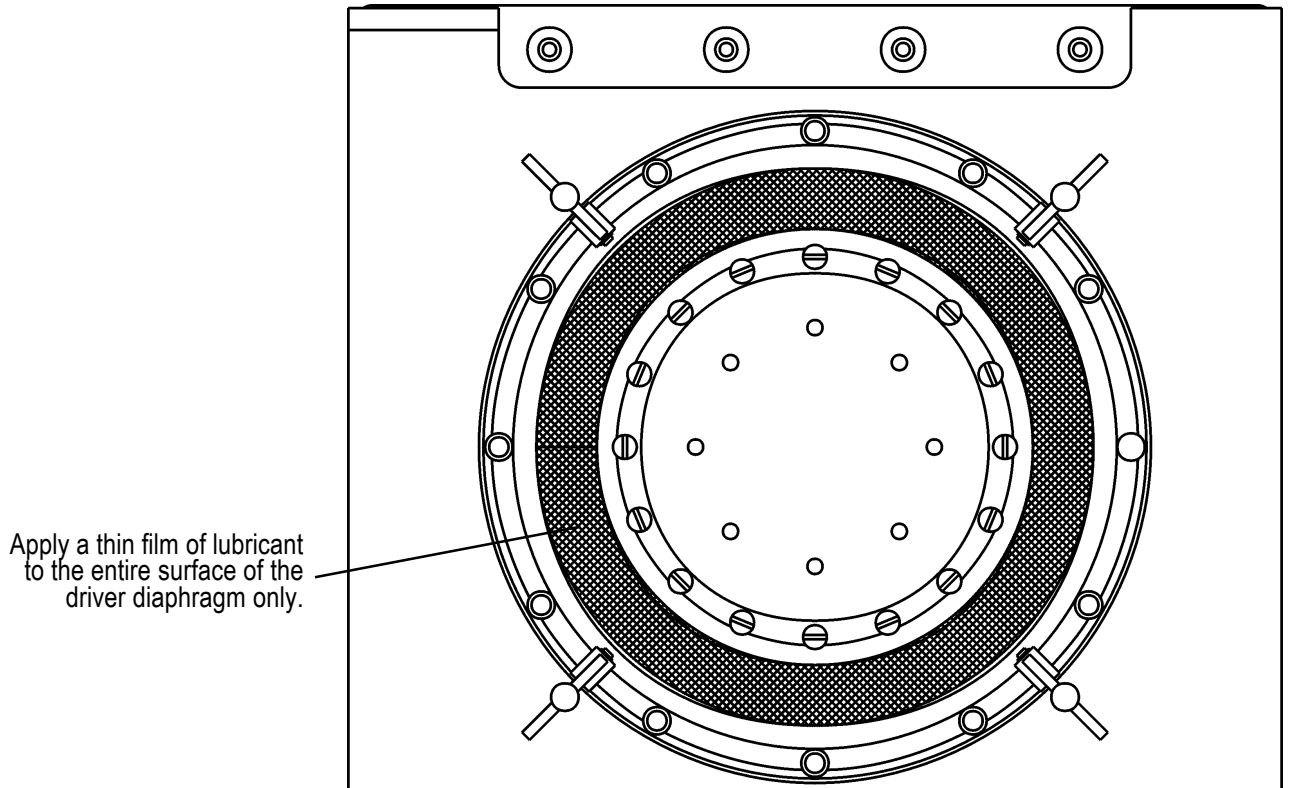

Figure 7.1. Driver Diaphragm Lubrication.
3. Use a cotton tipped applicator or the finger of a gloved hand, to apply a thin film of SensorMedics approved lubricant to the entire surface of the driver diaphragm (Figure 7.1).